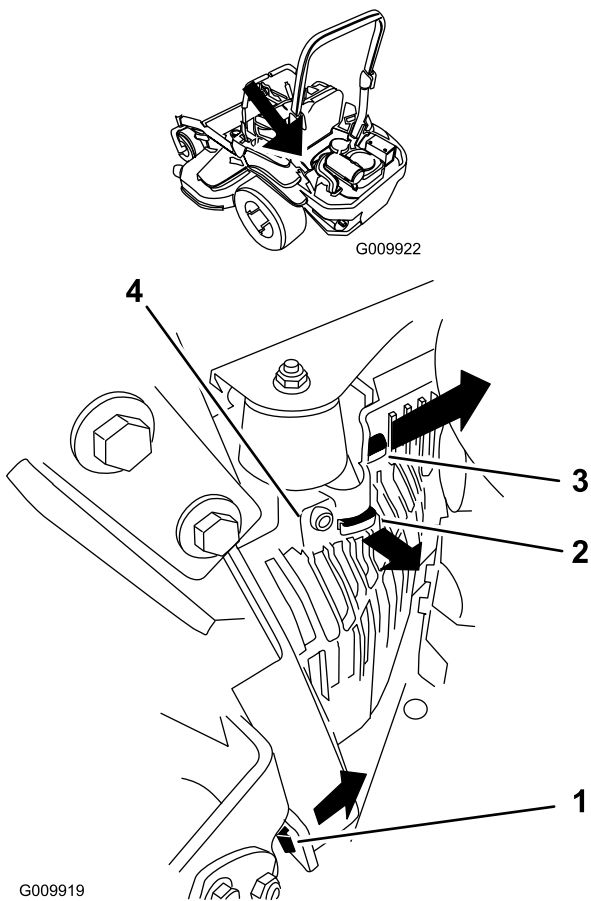

Figure 56
3. Remove the lefthand hydraulic unit shroud in the order listed with Figure 56. This gives you access to the front spark plug.
5. Install the lefthand hydraulic unit shroud (Figure 56).